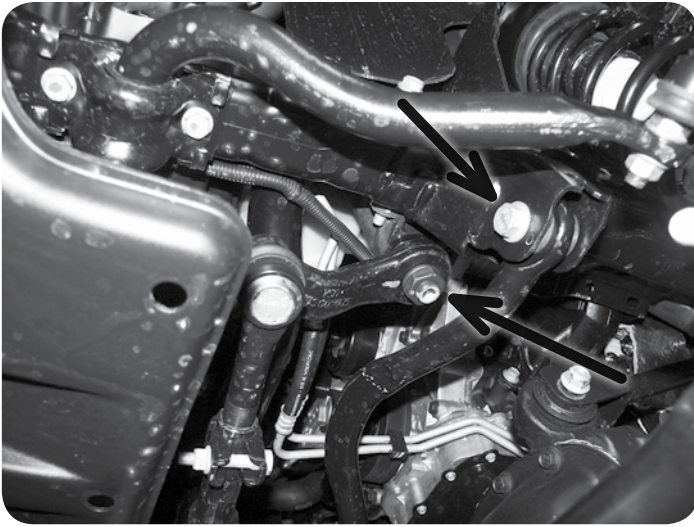

Figure 2
10. Disconnect the track bar from the frame mount and remove it from the vehicle (Figure 2). Save mounting hardware.
11. Disconnect the steering drag link from the pitman arm (Figure 2). Remove the tie rod end nut and dislodge the tie rod end from the pitman arm with the appropriate puller or pickle fork. Save tie rod end nut.